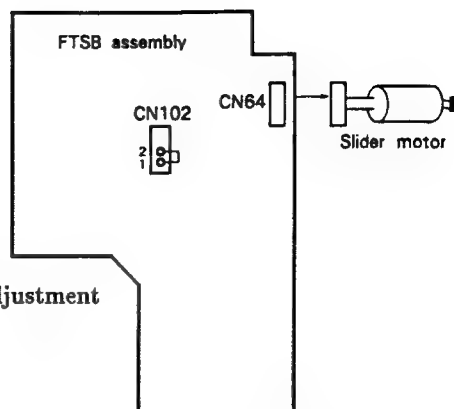

Fig. 14 Connection of TRKG servo loop open
- TRKG servo loop will be open if FTSB assembly CN102-1 and CN102-2 are connected each other (means CN102-1 is connected to GND). If the pick-up moves while TRKG servo loop is open, set free the connector (CN64 of the FTSB assembly) of the slider motor. (Fig.14)